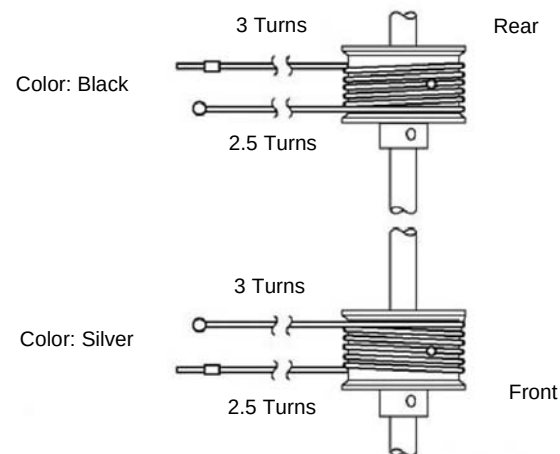

Figure 9 Cable arrangement
4. **Figure 9** shows the correct arrangement of the cables, front and rear.